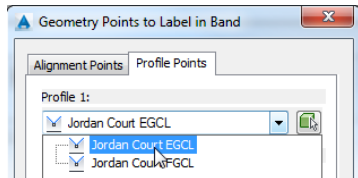

FIGURE 8.4 Assigning Jordan Court EGCL as Profile 1
6. In the Geometry Points To Label In Band dialog box, on the Profile Points tab, select Jordan Court EGCL as Profile 1, as shown in Figure 8.4. Click OK.